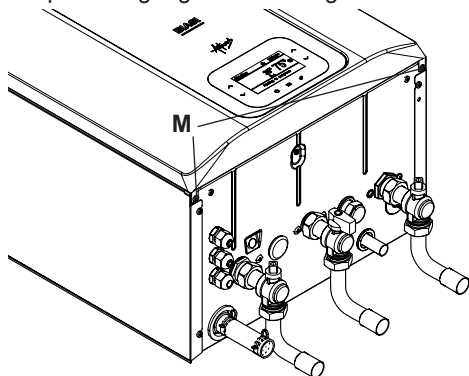
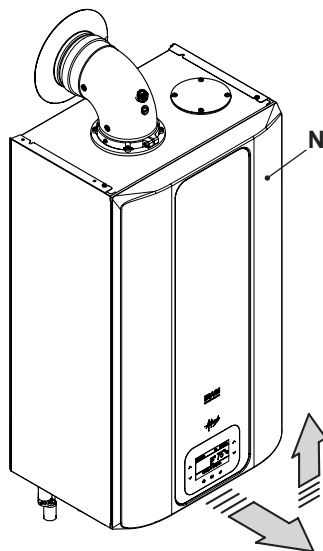

Fig. 6.14
Fig. 6.15
- Unscrew screws "M" and remove the front panel "N" by pulling it and pushing it towards the top so that it is freed from the top housing Fig. 6.14 and Fig. 6.15.